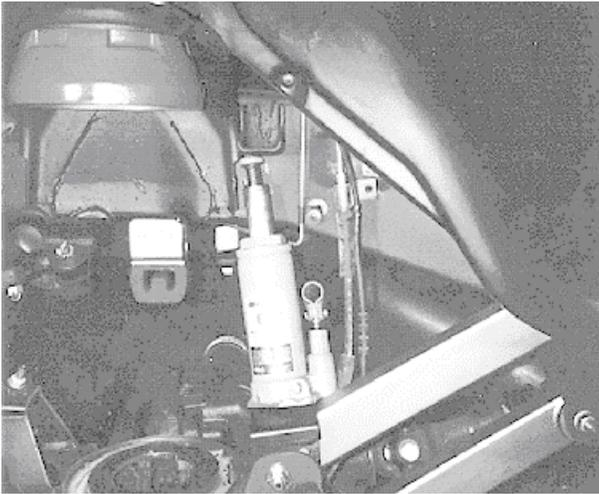

fig. 10
25. Carefully lower the floor jack and axle then place a bottle jack between the outer (unused) bump stops to assist in the re-installation of the springs. Extend the jack (**be careful not to stretch brake lines**) until there is just enough clearance to place the OEM STOCK springs between their original lower perch and the rubber isolator in the spring spacer. Refer to fig. 10
28. Place the upper shock mount # 104165 for the left side and the # 140164 for the right side of the vehicle on top of the spring pocket. Align the mounts so that the shock tabs point toward the rear of the vehicle and the three holes line up with those on the spring pockets. **Refer to fig. 10**